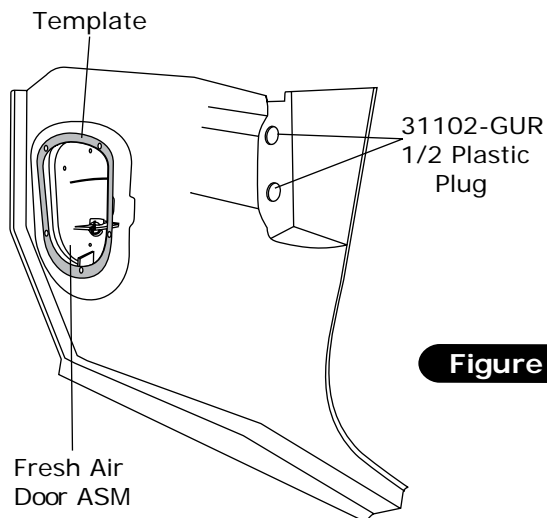

Figure 4
2. Install 1/2" plastic plugs to fill the holes left from the removal of the pull cable assembly (See Figure 4, below).
4. Cut fresh air door assembly as shown in Figure 4, below.